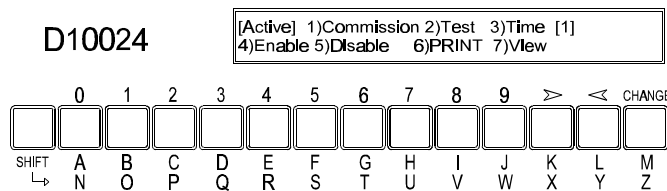

Figure 3: Operator's Menu, Main Level
| Figure 3: Operator's Menu, Main Level | 7 |
- To disable Panel Keys, select option three, 3) Keys, from the Disable Menu. The display indicates that the panel keys are inhibited and then returns to the normal display. This places the panel in the Level One Control Level. To enable Panel Keys, press any of the Control Keys except **No**, or press the ">" Key. The panel prompts, "Do you want to enable the control keys?" Press the **Yes** Key. The panel prompts for the pass code. Key in the Level Two pass code. The display reverts to the Operator's Menu, Main Level. (See Figure 3.) After one minute the display reverts to the normal display.